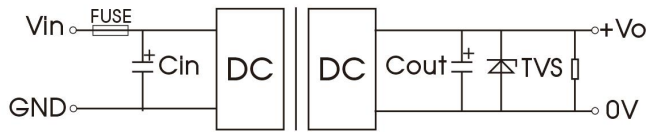

Fig. 1
- (1) We recommended using the recommended circuit shown in Fig.1 during product testing and application, otherwise please ensure that at least a 220 $\mu$ F electrolytic capacitors is connected at the input in order to ensure adequate voltage surge suppression and protection.
- (2) We recommended increasing the value of Cin and pay attention to the unstable input voltage if the product input side is paralleled with motor drive circuit and/or larger energy transient circuits, to ensure the stability of input terminal and avoid repeatedly start-up problems due to input voltage lower than undervoltage protection point.
- (3) We recommended increasing the output capacitance with limited to the capacitive load specification and/or increasing the voltage clamping circuit(such as TVS) if the output terminal is inductive device such as relay or a motor, to ensure adequate voltage surge suppression and protection.
- (4) Input and/or output ripple can be further reduced by appropriately increasing the input & output capacitor values Cin and Cout and/or by selecting capacitors with a low ESR (equivalent series resistance). Also make sure that the capacitance is not exceeding the specified max. capacitive load value of the product.